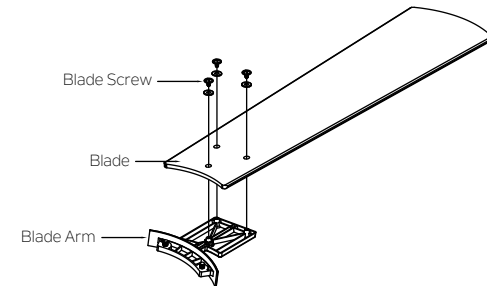

Fig. 17
Step 1. Position the blade over the blade arm with threaded posts showing. Make sure the bottom edge of the blade is fully seated against the blade arm. With a Phillips screwdriver, start a blade screw and washer into the blade arm (do not tighten) and repeat for the 2 remaining blade screws and washers. Tighten each screw securely starting with the center screw. Make sure the blade is straight. Repeat steps for the remaining blades. (Fig. 17)